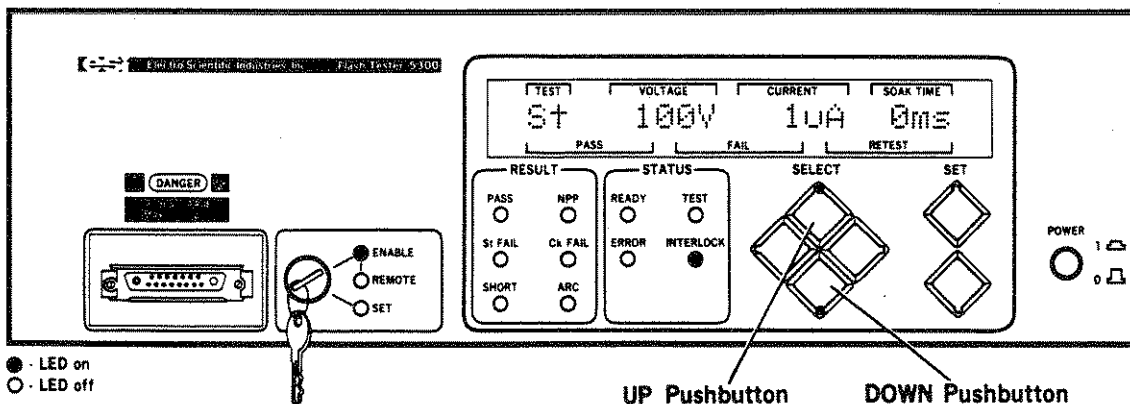

Figure 7-6. Front Panel Following Power-Up Sequence
STEP 5. As the instrument cycles through its power-up sequence, it should briefly illuminate all LEDs and all segments in the display. When the cycle is done, the following should be illuminated: ENABLE LED, INTERLOCK LED, the LEDs on the UP and DOWN pushbuttons, and the 20-character display. Refer to Figure 7-6 for an illustration of this condition. With the exception of the numbers in the display, the instrument should appear exactly as in Figure 7-6.